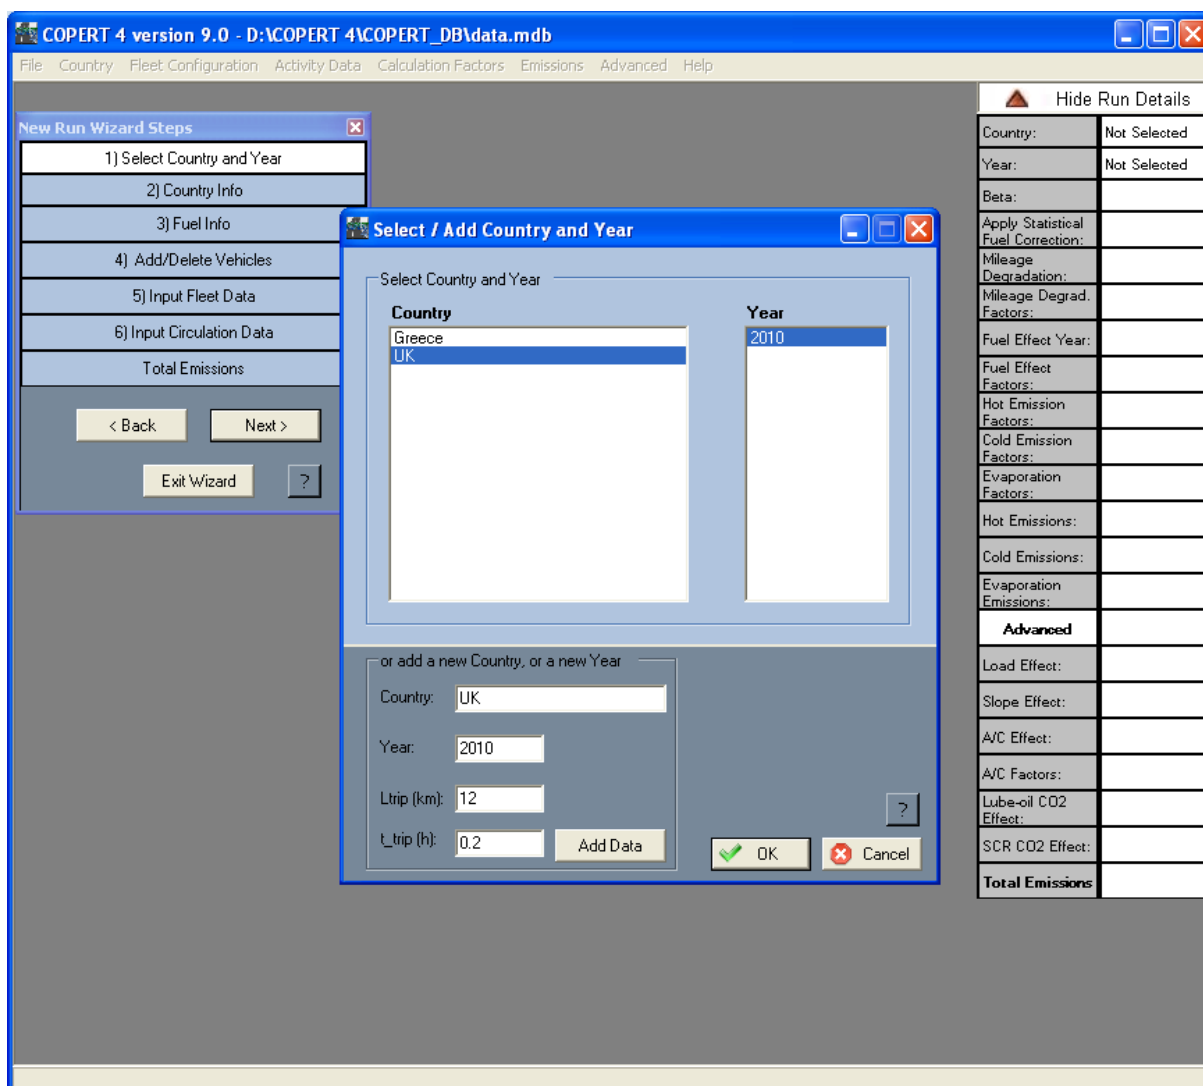

Figure 3 - Wizard: Select Country and Year Screen
- Click 'Next >' in the wizard and the 'Select Country' and 'Year' screen will appear (Figure 3). Select the desired country and click 'OK'.